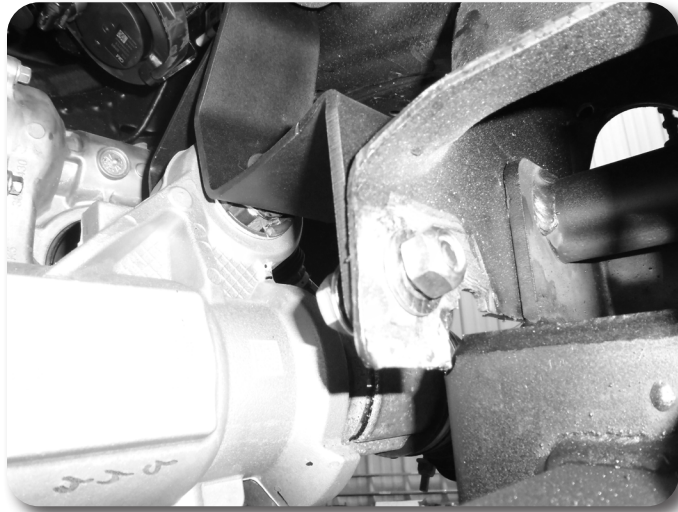

Figure 28
40. Install the provided 1/2" x 1-1/2" bolt, 1/2" SAE Washers, and 1/2" Prevailing torque nut through the slot on the factory rear cross member and the differential brace Fig. 28. Leave hardware loose.